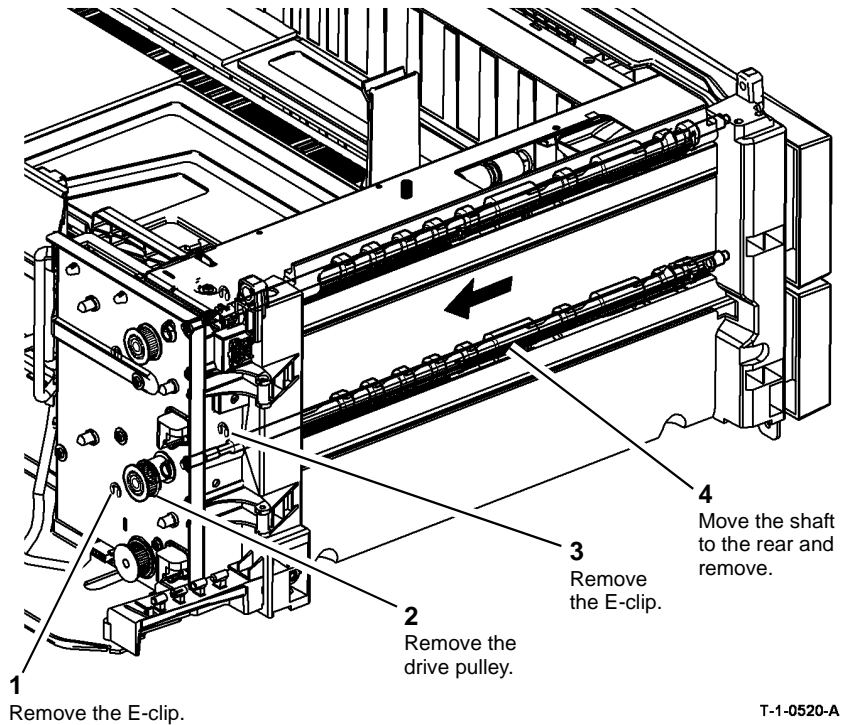

Figure 1 Drive shaft removal
- Remove the drive shaft and bearings, Figure 1.